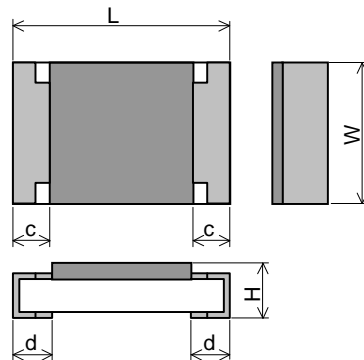

Figure-1
5.1 The suppressor shall be of the design and physical dimensions in accordance with Figure-1 and Table-3.